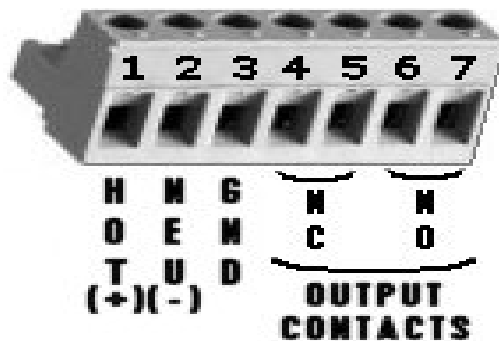

Figure 6: Wiring terminal
Connect the wires as shown in Figure 6 to the terminal for the input power and the output contacts.
- Connect the AC power: Hot (1), Neutral (2) and Ground (3) to the Input/Output connector as seen in Figure 6: Wiring.
- Connect the DC power: DC positive (+) (1), DC return ground (-)(2) to the Input/Output connector as seen in Figure 6: Wiring.